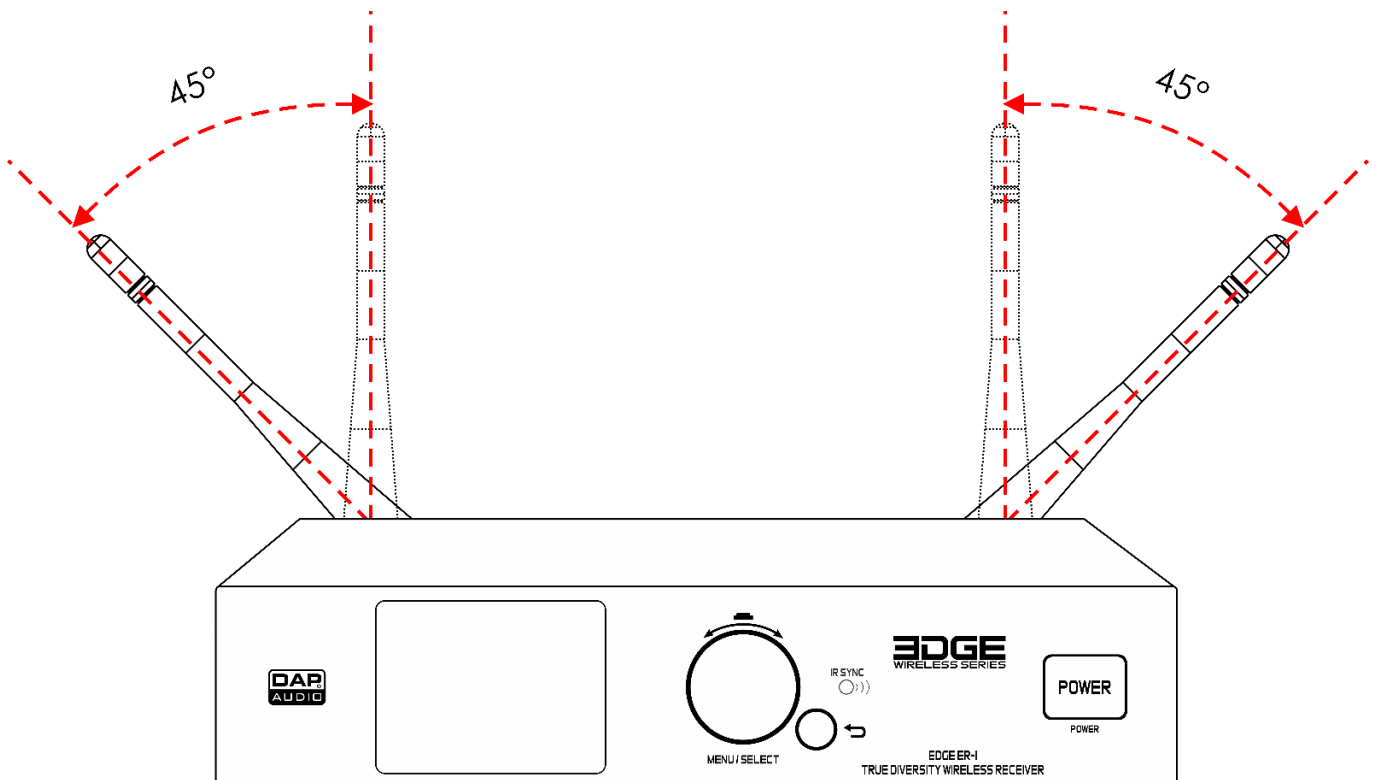

Fig. 09
- 01) Insert the 1st antenna into the **12–15 V DC BNC connector (09)**.
- 02) Insert the 2nd antenna into **12–15 V DC BNC connector (15)**.
- 03) Point the antennas away from each other at an angle of 45° (Fig. 09).